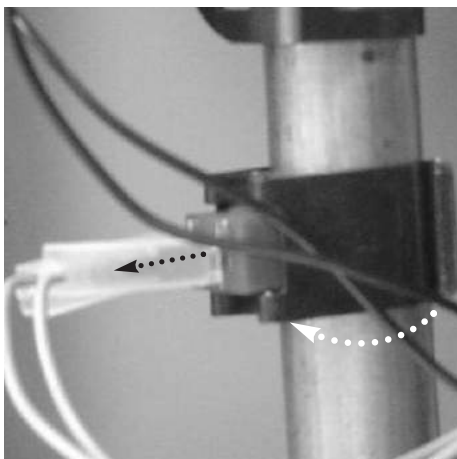

Fig. 95
2. Pull off the thermostat connections. Then remove the thermostat from the pipe by releasing its securing clip (see Fig. 95).